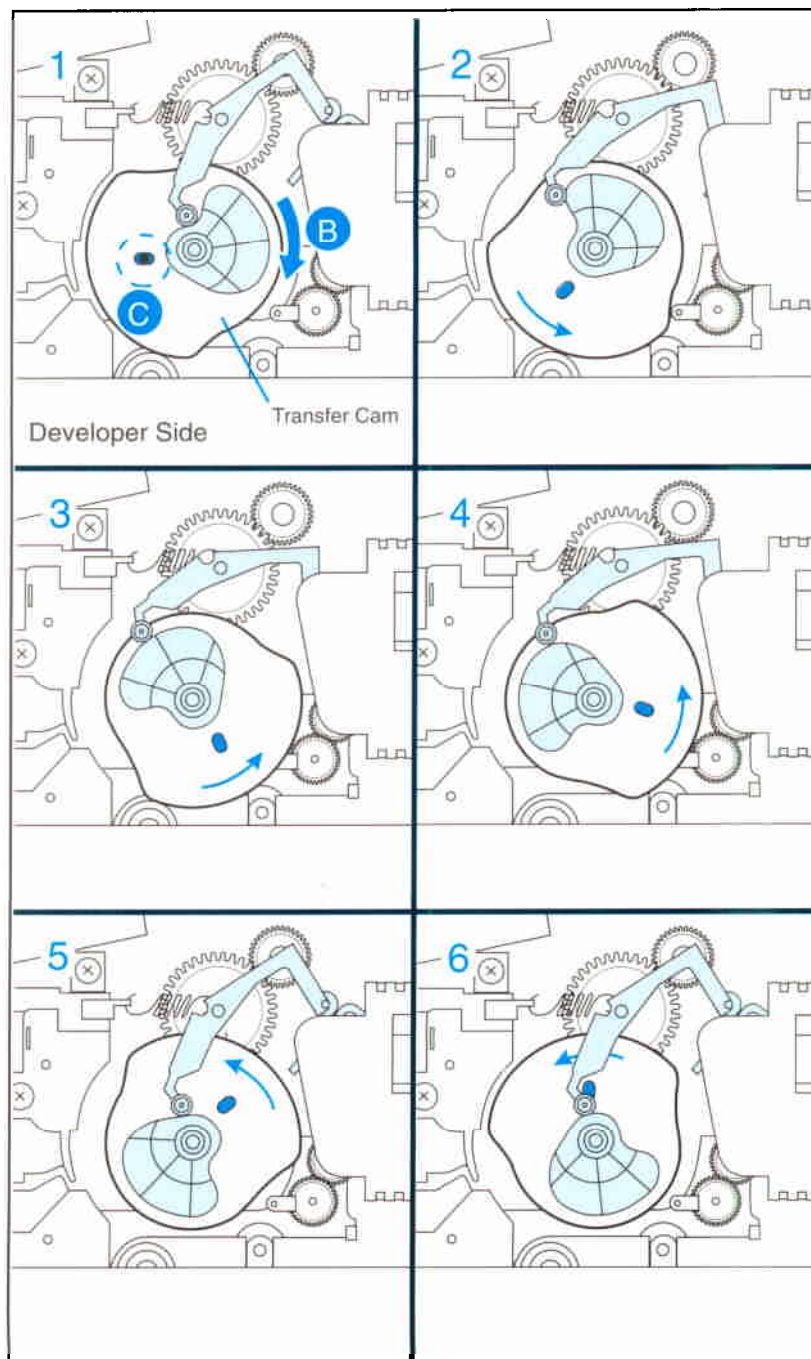

Figure 6-39 Six Positions of the Transfer Cam
1. Enter the Status/Test mode as described in “Aids to Troubleshooting” in Chapter 7. The printer should go to the position shown in Figure 6-39, position 1.
2. Trip the solenoid manually. The printer should go to the position shown in Figure 6-39, position 2.
3. With each successive tripping of the solenoid, the printer should advance to each of the stations shown in Figure 6-39.
2. Remove the backlash (free play) by rotating the Transfer Cam clockwise (Figure 6-39, item B) and verify hole alignment (Figure 6-39, item C).